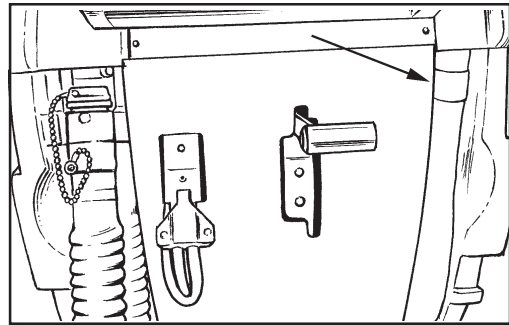
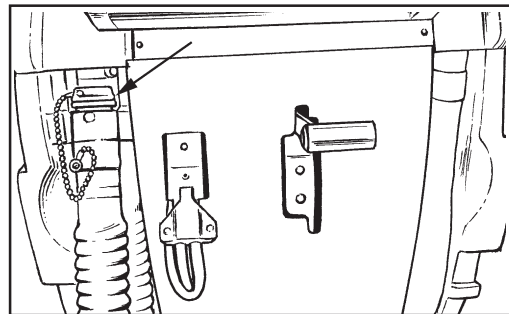

Figure 25
Figure 26
1. Drain the solution tank (Figure 25) and the recovery tank (Figure 26). To drain the tanks, follow this procedure: